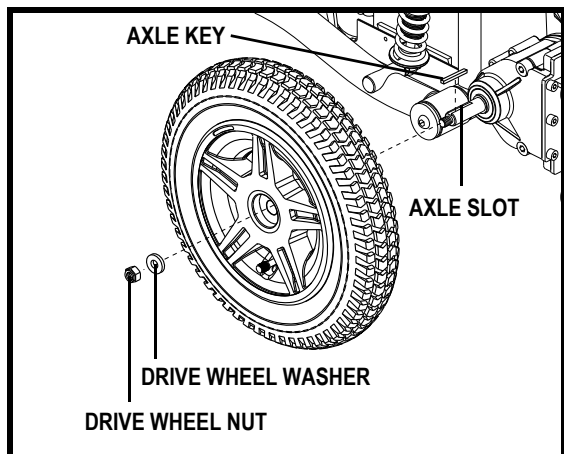

Figure 21. Quantum 614 Series Drive Wheel
4. Remove the drive wheel nut and washer from the axle. See figure 21.